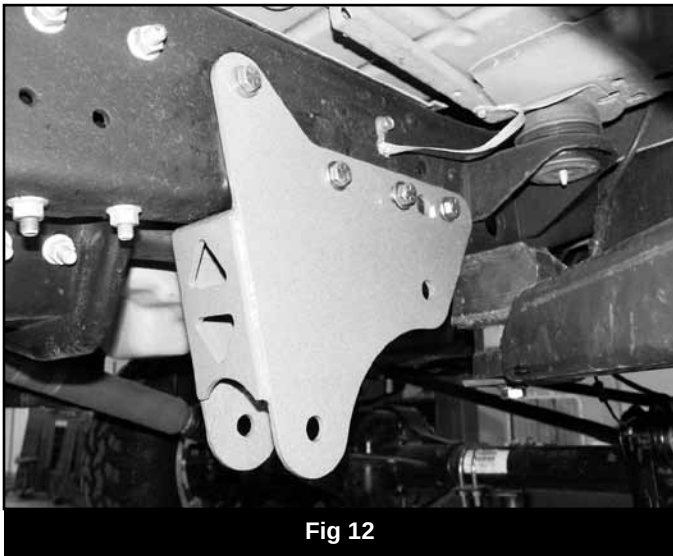

Fig 12
32. Place the new passenger's side 4-Link bracket (02027) up to the frame and align the existing rivet holes with the corresponding holes in the bracket. Attach the bracket with $\frac{1}{2}$ " x 1-1/2" bolts, nuts and $\frac{1}{2}$ " SAE flat washers from bolt pack #432. Torque $\frac{1}{2}$ " hardware to 90 ft-lbs. (Fig. 12, 13)